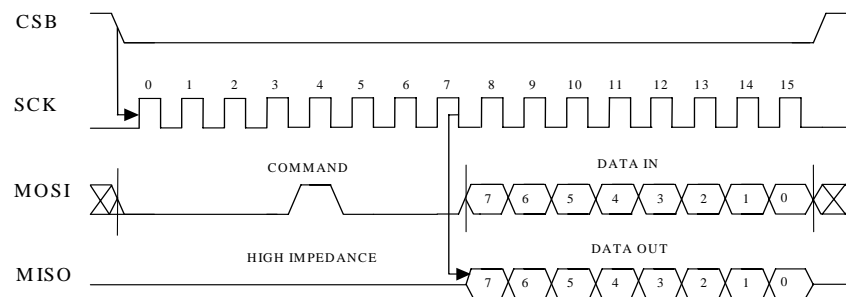

Figure 10. Command and 8 bit temperature data transmission over the SPI
**Read temperature data register (RWTR)** reads the temperature data register during normal operation without effecting the operation. Temperature data register is updated every 150  $\mu$ s. The load operation is disabled whenever the CSB signal is low, hence CSB must stay high at least 150  $\mu$ s prior to the RWTR command in order to guarantee correct data. The data transfer is presented in figure 10 below. The data is transferred MSB first. In normal operation, it does not matter what data is written into temperature data register during the RWTR command and hence writing all zeros is recommended.